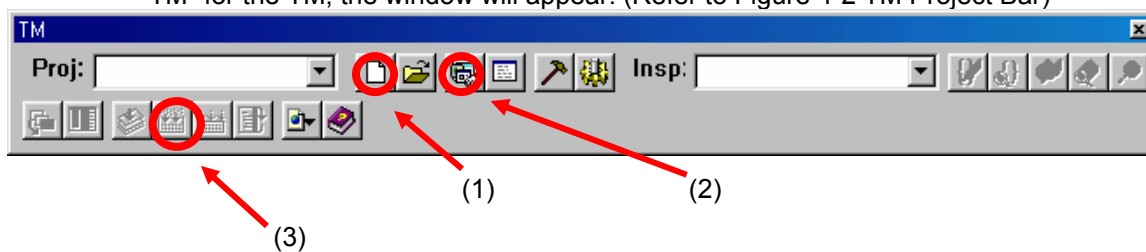
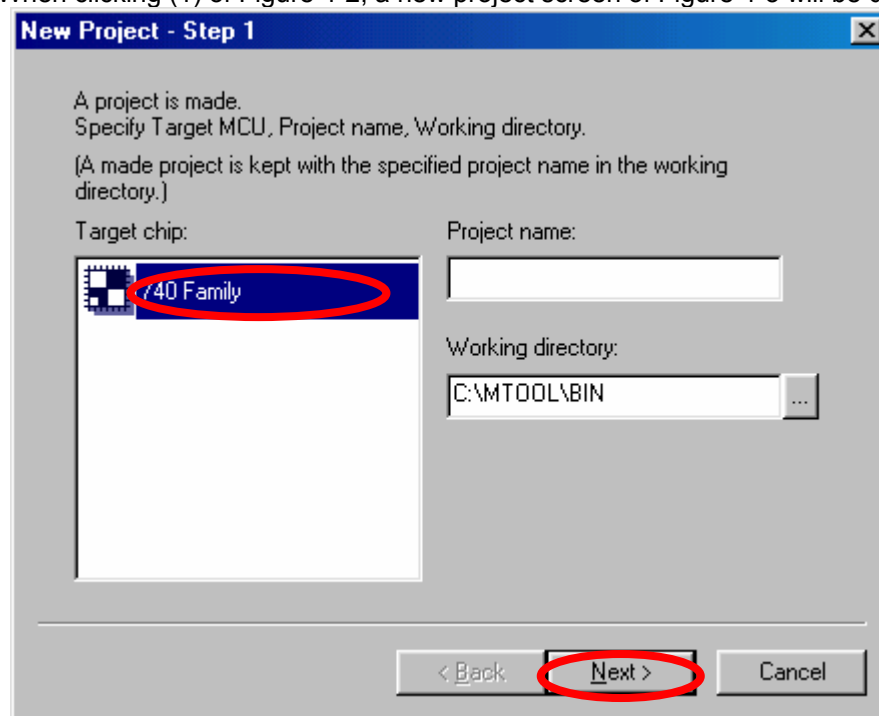

Figure 4-2 TM Project Bar
Figure 4-3 Screen of New Project Step 1
When clicking in order of "Start" - "Program" - "RENESAS-TOOLS" - "TM V.x.xx" - "TM" for the TM, the window will appear. (Refer to Figure 4-2 TM Project Bar)
When clicking (1) of Figure 4-2, a new project screen of Figure 4-3 will be displayed.
- 5)Select “740 Family” for a target chip on Figure 4-3. Enter a project name to anywhere. Designate a directory which copied a sample program for a working directory and click “Next”.
9)Open a project editor. Add a source program and set an assembler option. Click (2) of Figure 4-2, the project editor will be displayed.
12)Perform assembling finally. Click (3) of Figure 4-2 (Build button).